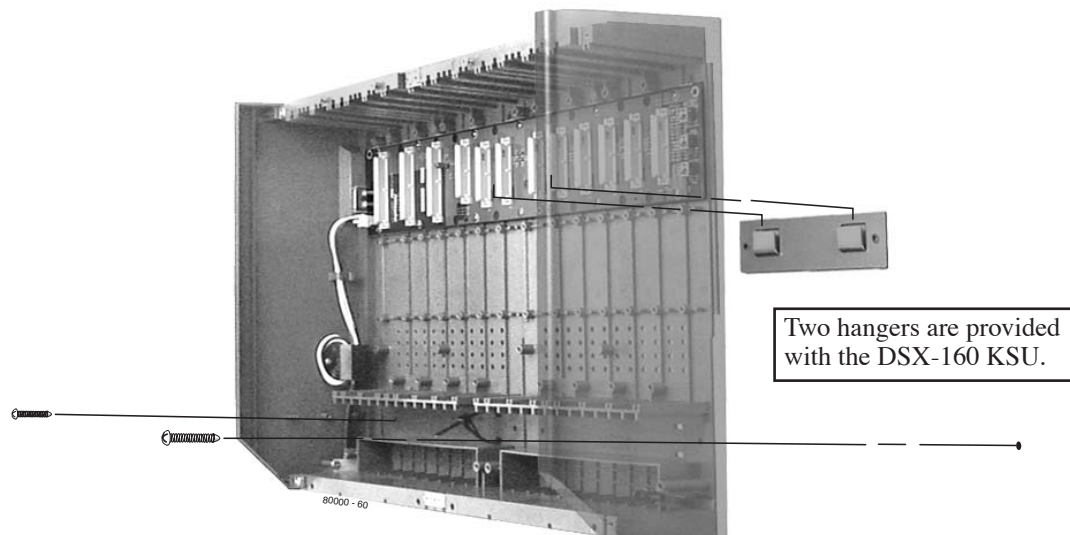

Figure 7: Hanging the DSX-160 8-Slot KSU
- See Figure 7: *Hanging the DSX-160 8-Slot KSU* below when hanging an DSX-160 slot cabinet.